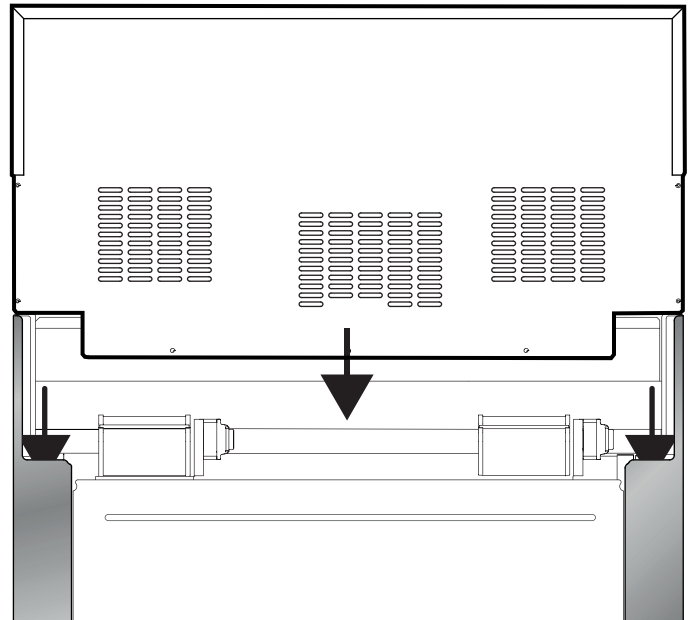

Figure 16: Backguard Installation
3. Align the back panel of the new accessory with the flanges on the range side panels right and left rear corners. The backguard is inserted inside the guide channels on the back of the range (Figure 16).